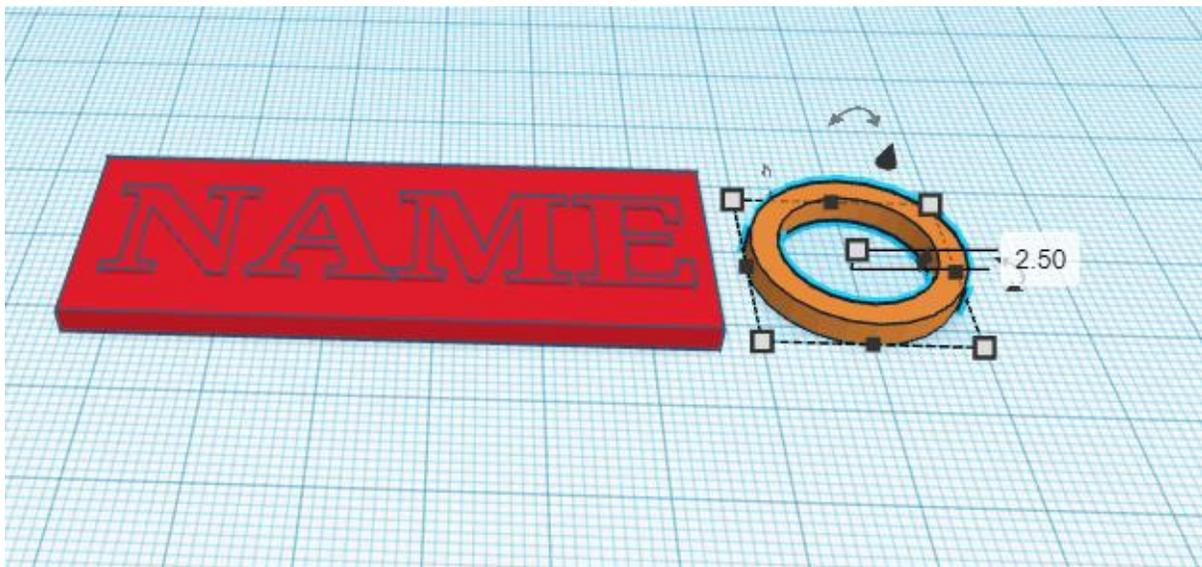

Fig.2.20 Selection of tube shape from the basic shapes
9. Click and drag the middle handle to reduce the thickness of the tube to around 2.50 mm and radius of approx. 15mm. (Refer fig. 2.20)